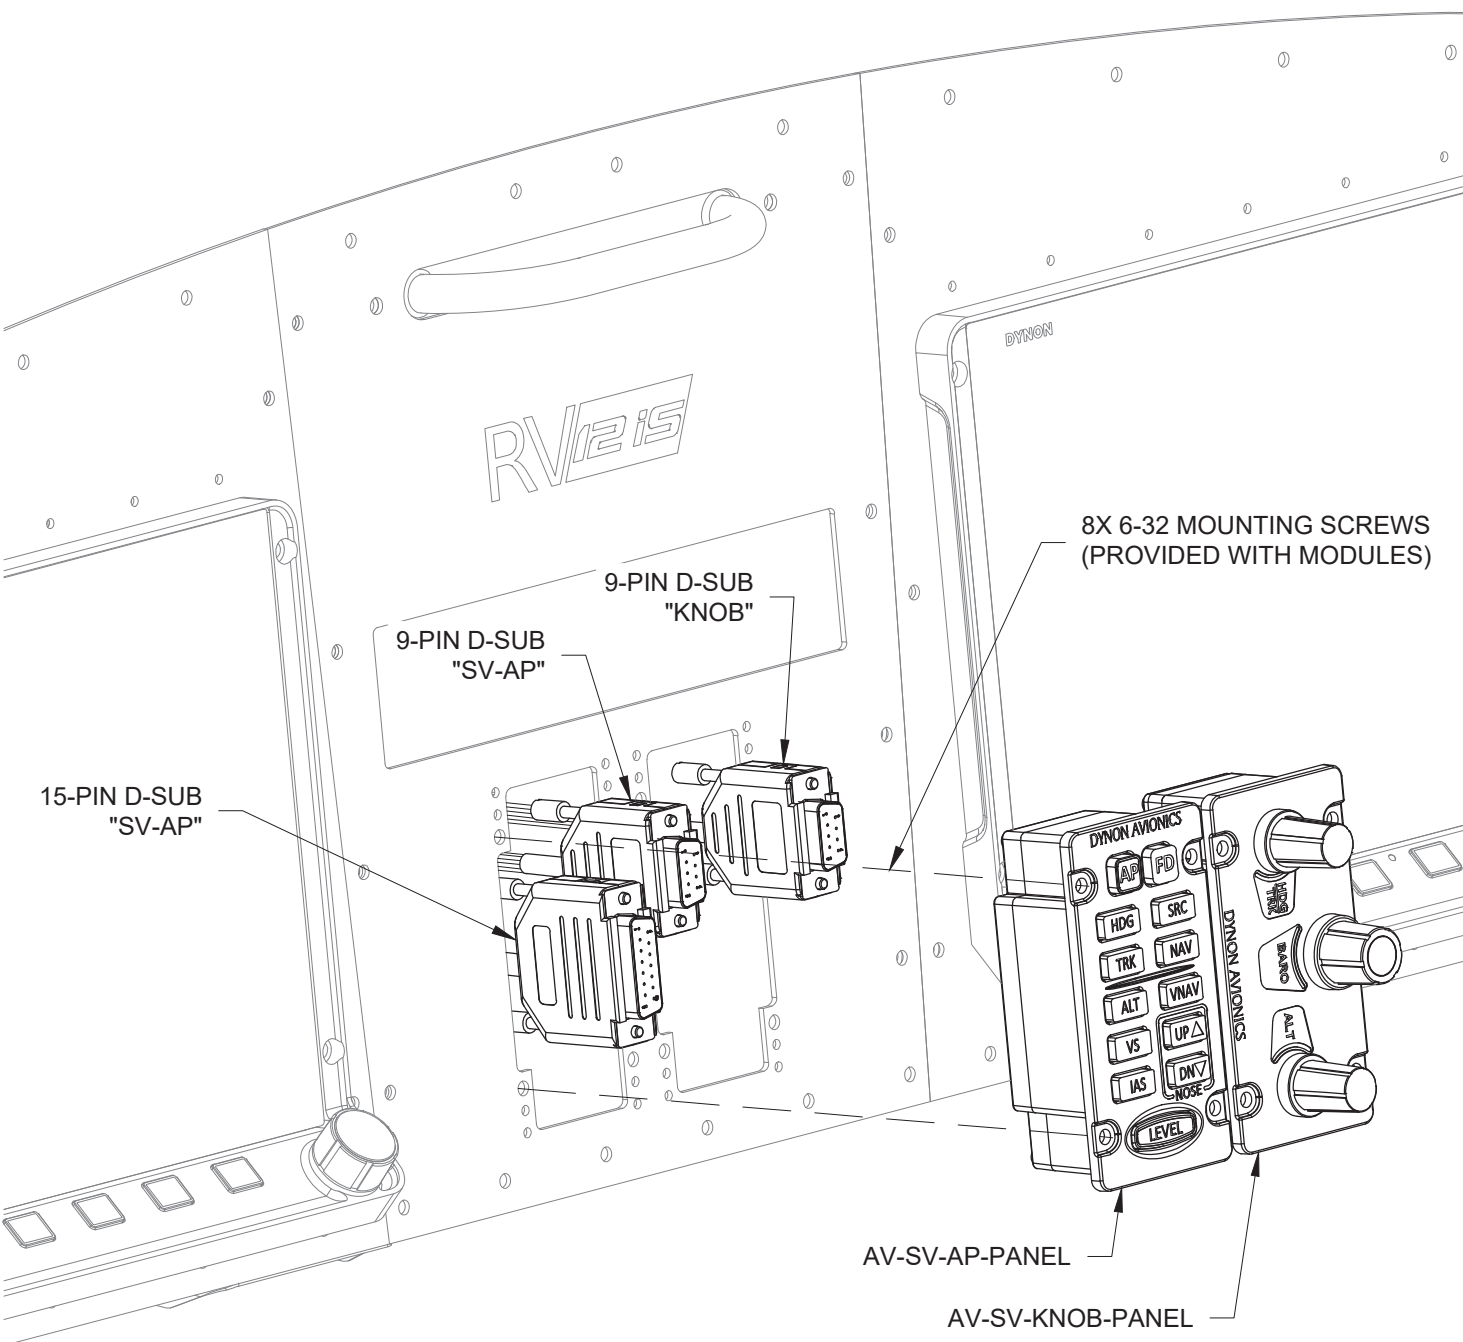

FIGURE 2: INSTALLING D-SUB PLUGS INTO AP PANELS
Step 5: Locate and pull the two 9-pin and one 15-pin d-sub from the WH-00133-1 harness through the cutouts in the panel as shown in Figure 2.
Step 7: Attach the modules to the panel using the hardware provided with the modules. See Figure 2.